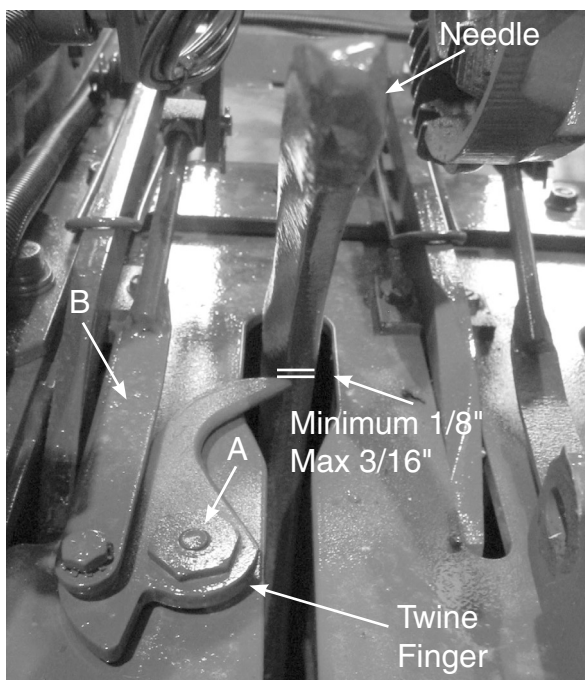
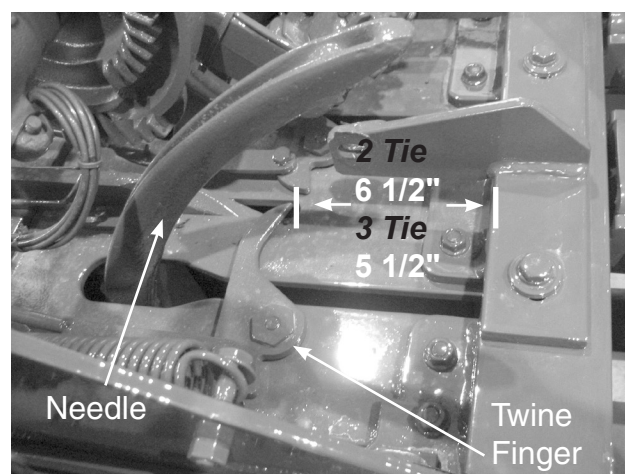

Figure 111. Needles In Home Position
Figure 112. Adjusting Twine Fingers
1. Trip the knotter and turn the flywheel counterclockwise until the point of the twine finger is just passing the inside edge of the needle. The point of the twine finger should clear the needle by $1/8$ ", (see Figure 111).
Make this adjustment by loosening the twine finger anchor bolts and sliding them to the front or back in the slotted holes in the bale chamber top (A) (see Figure 111).
2. Continue to turn the flywheel counterclockwise until the twine fingers reach the far point of their travel. Measure the distance from the tip of the twine fingers back to the knotter support angle (see Figure 112). This measurement should be $6 - 1/2$ " on the model 2 tie and $5 - 1/2$ " on 3 tie balers. This adjustment is made by lengthening or shortening the twine finger drive rods (B) (see Figure 111).